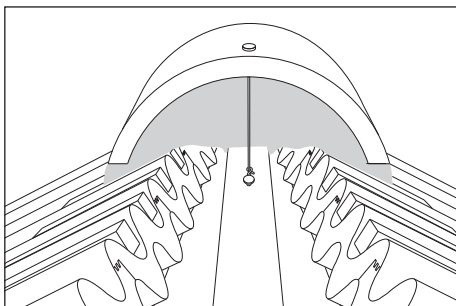

Fig. 20 – Security Ridge fixing at gable ends (concrete ridges)
- 5 Drive a nail into batten and attach a Security Ridge tile to it using the galvanised wire provided in tile (Fig. 20) (concrete ridges), or security strap (clay ridges).